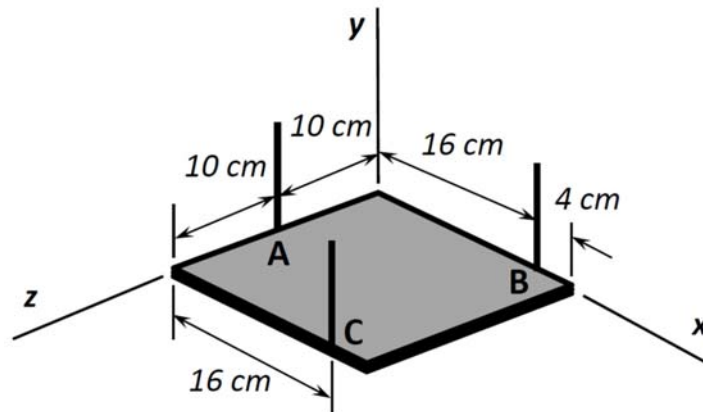

Figure 3[a]
3. [a] The square plate shown in Figure 3[a] has a mass of 10 kg and is supported by three vertical wires at A, B and C. A block is to be placed on the plate to achieve equal tensions in all three wires. Determine the location and weight of the lightest block that should be placed on the plate.
- [b] A wedge is used to raise a 2000 N concrete block onto a platform as shown in Figure 3[b]. The coefficient of static friction between all surfaces is 0.2.